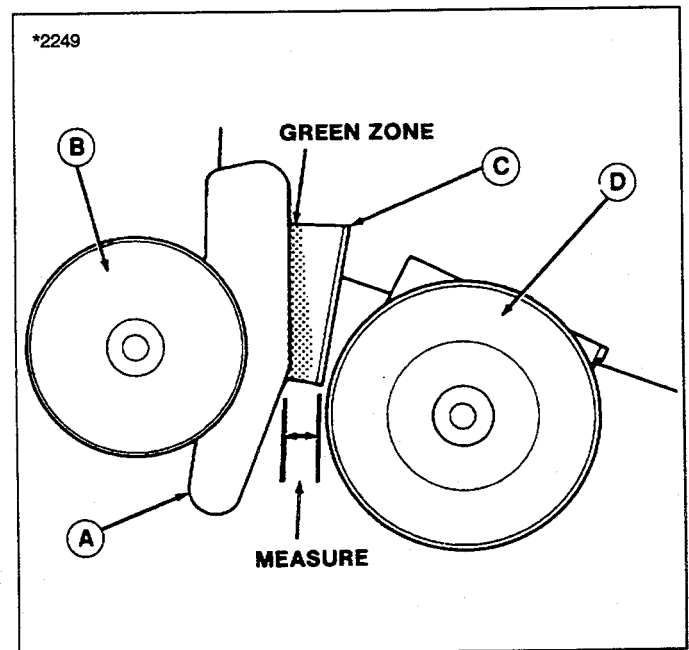

Figure 5. Mower Belt Adjustment
(A, figure 5) should be aligned with the front edge of the green zone shown in figure 5. The distance between idler bracket (A) and stop (C) will be approximately 1-3/16" (30 mm).
14. Push the belt tensioning lever down to release belt tension. Loosen the nut that secures the rear idler pulley (D, figure 5) in the slot. To move the idler bracket (A) forward, move rear idler pulley (D) rearward. Tighten the nut to secure pulley. Pull the belt tensioning lever up and check position of idler bracket (A). Readjust as necessary.
15. Operate the tractor with mower engaged for 15 - 30 minutes with a new belt; about two minutes with a used belt. Disengage the PTO, stop the engine, remove the key, shift into neutral and set the parking brake. Check position of the idler bracket (A, figure 5). If the rear edge of the bracket is not aligned with front edge of green zone, repeat step 14.